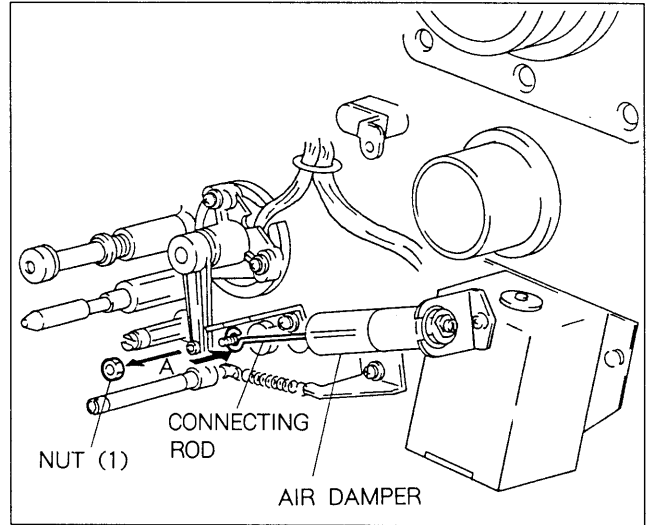

Fig. 9-2-2. Air Damper Replacement (1)
- (1) Remove the nut (1) from the tension arm assembly as shown in Fig. 9-2-2.
- (2) Remove the connecting rod of the air damper in the arrow A direction.